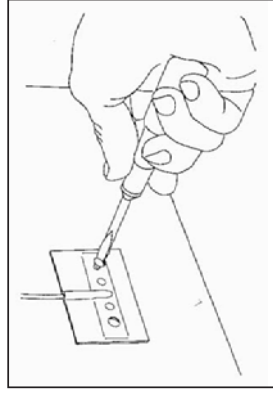

FIG. 6-FASTENING HOLDER TO DUCT WALL.
- 6 Fasten bulb holder to duct wall with screws furnished, as shown in Fig. 6.